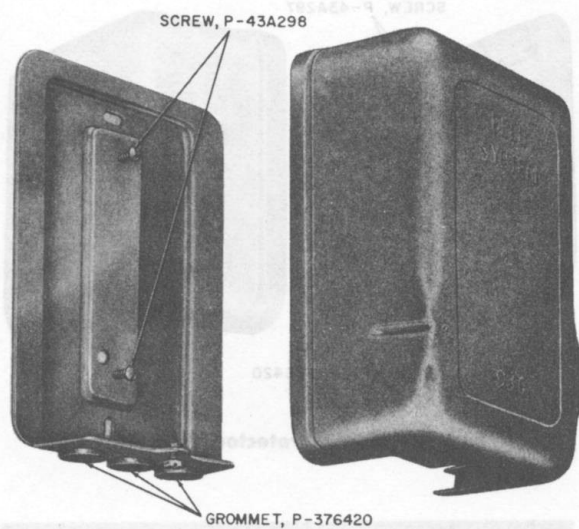

Fig. 14—93C Protector Mounting
3.06 The 93C protector mounting (Fig. 14) is intended to house the 98AA(MD), 106C, and 106CA(MD) protector for outdoor installation. This mounting consists of a metal base and removable metal cover. It is provided with two screws for fastening the protector to the metal base.